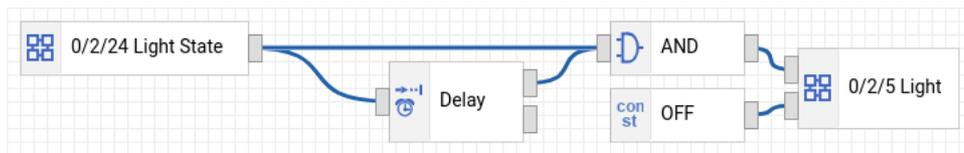

Figure 11: Automatic Light
- Connect the nodes according to Figure 11